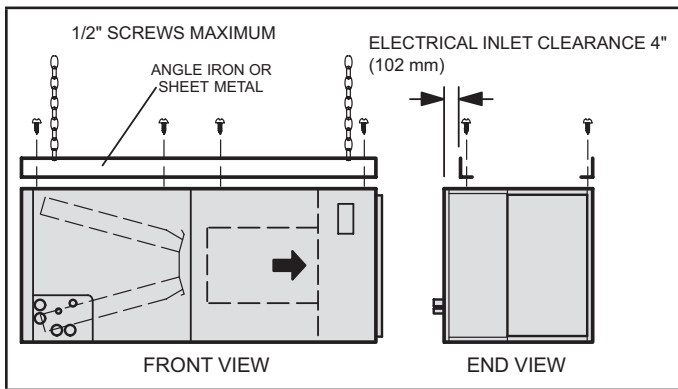

FIGURE 8. Suspending Horizontal Unit
- 4 - If the unit is suspended, the entire length of the cabinet must be supported. If you use a chain or strap, use a piece of angle iron or sheet metal attached to the unit (either above or below) to support the length of the cabinet. Use securing screws no longer than 1/2" to avoid damaging the coil or filter as illustrated in figure 8. Use sheet metal screws to connect the return and supply air plenums as required.
- 14 - If suspending the unit, it must be supported along the entire length of the cabinet. If using chain or strap, use a piece of angle iron or sheet metal attached to the unit (either above or below) so that the full length of the cabinet is supported. Use securing screws no longer than 1/2" to avoid damage to coil or filter, as illustrated in figure 8. Connect return and supply air plenums as required using sheet metal screws.